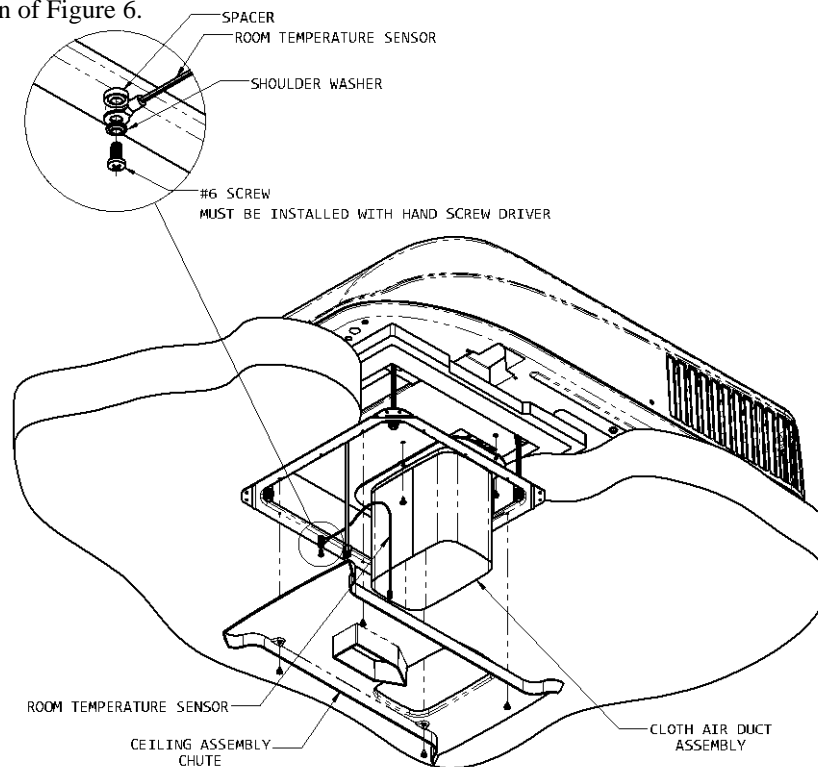

FIGURE 5
Refer to Figures 5 and 6
- G. Attach the room temperature sensor to a middle hole of the steel mount frame using spacer, shoulder washer, and #6 screw provided. Refer to Figure 5.
Reportez-vous aux figures 5 et 6